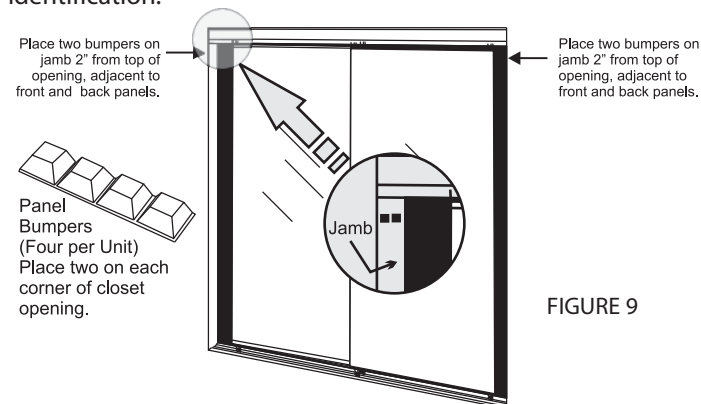

FIGURE 9
Doors are shipped with four (4) panel bumpers to provide a cushion between the door panel and jamb for maximum quiet operation. Install: Detach bumpers from strip and attach on jamb where the edge of mirror panel(s) and jamb(s) meet. Attach two (2) bumpers in the TOP CORNERS of the opening. Bumpers should be about 2" from the top of the opening. This will accommodate the full bypass function of the panels. (Fig. 9)